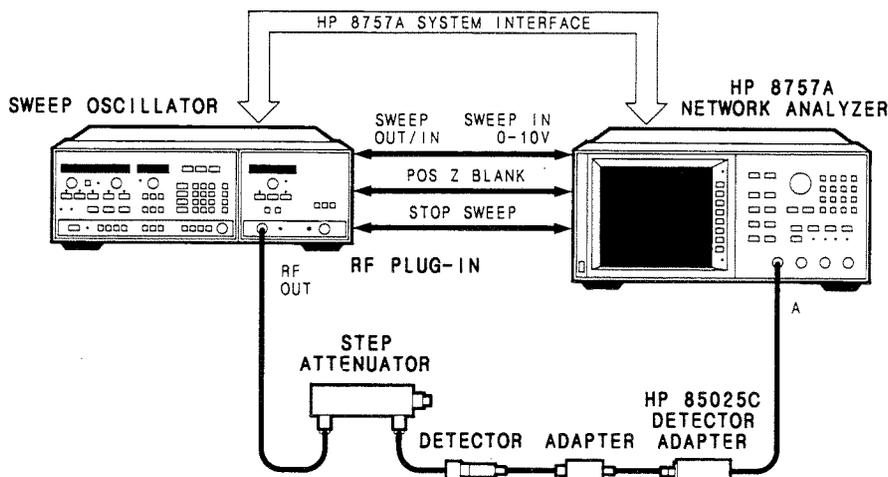

Figure 1. Equipment Set Up.
1. Connect the equipment as shown in Figure 1. Allow the equipment to warm up for 30 minutes.